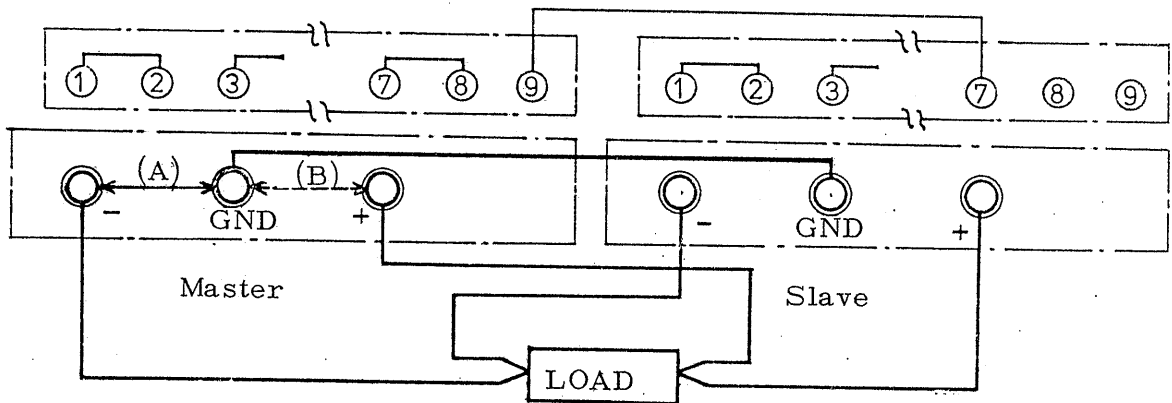

Fig. 3-7 One-control parallel operation
- (1) Connect the terminals on the rear panel of the master to the slave ( The output voltage is controlled by the master. ) as shown in Fig. 3-7.
- (2) Pick up the output at the output terminals on the rear panel of the master. When turning on the power or output switches of the master and slave, start with the master. When turning them off, start with the slave.